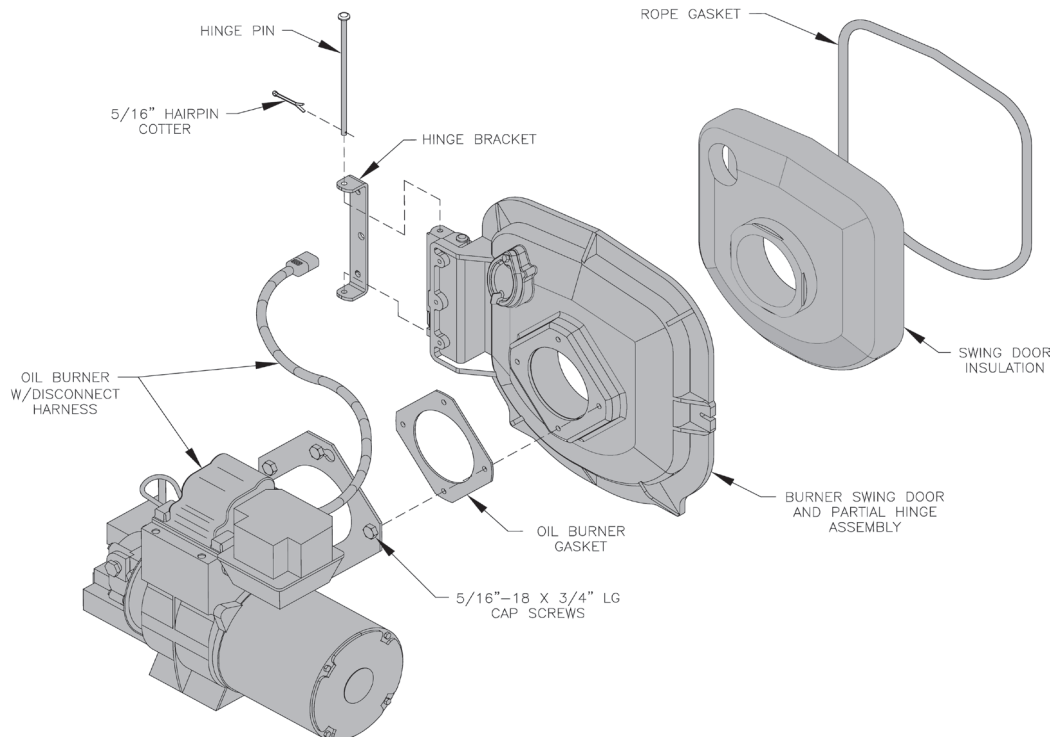

Figure 7: Oil Burner Installation (Beckett Burner Shown)
- Remove burner swing door and hinge assembly. Remove one (1) 5/16"-18 flange nut and washer from right side latching stud and one (1) 5/16"-18 x 3 $\frac{1}{2}$ " cap screw on left side used for securing burner swing door to the boiler section. Swing door open and remove 5/16" hairpin cotter from rear hinge pin (see Figure 7). While holding swing door remove hinge pin and set door aside. Remove two (2) 5/16"-18 x $\frac{3}{4}$ " long cap screws securing the hinge bracket to the boiler section.
(See Figure 7).